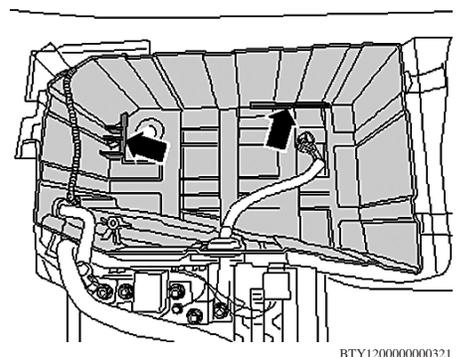

Fig. 6 Battery installation
1. Insert battery in battery mount so that base strip engages in battery mount retaining strips (arrows), **Fig. 6**. It should no longer be possible to move battery.